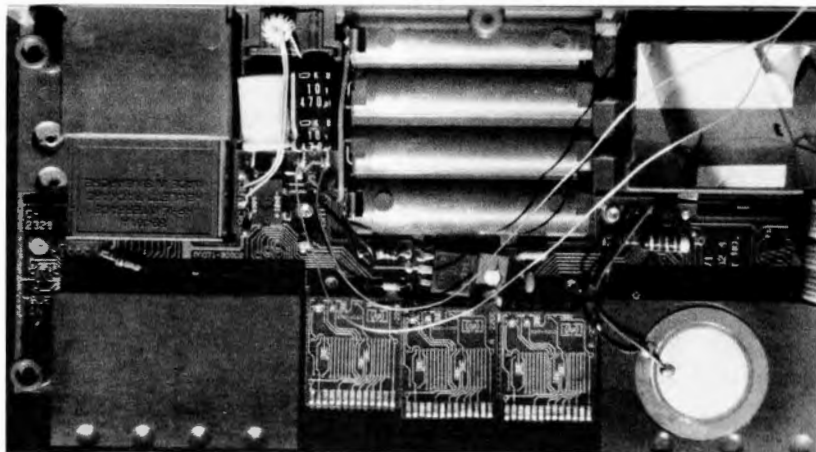

Figure 9-8. +5v and Ground are easily tapped on the 71's power supply capacitor leads.
8) We are now going to solder the six wires from the modular jack to the 71's guts. Pins #3 and 4, which supply +5v and Gnd respectively, connect to the 470 microfarad capacitor right next to the 71's AC adapter input. (Fig. 9-8) Pin 3 gets connected to the side of the capacitor labeled as "+".
6) We are now going to solder the six wires from the modular jack to the 71's guts. Pins #3 and 4, which supply +5v and Ground respectively, connect to the 470 microfarad capacitor right next to the 71's AC adapter input. (Refer to Fig. 9-8 from page 222). Pin 3 gets connected to the side of the capacitor labeled as "+".